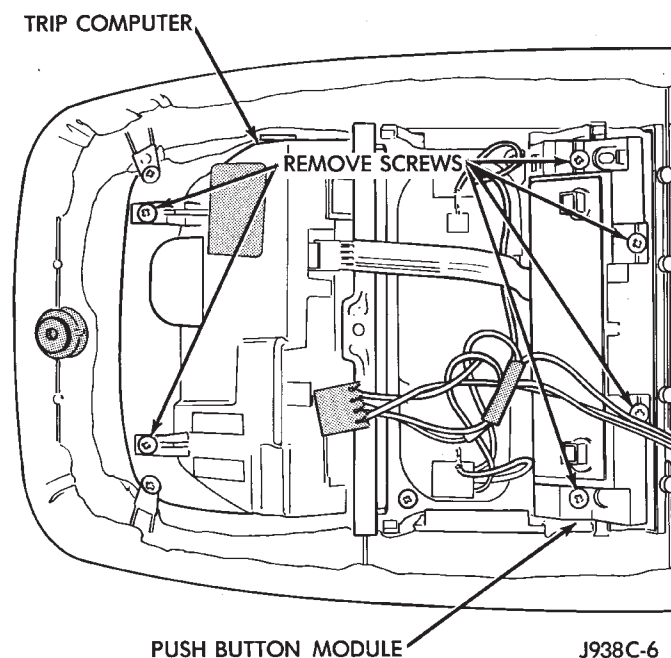

Fig. 5 Trip Computer Remove/Install - Typical
(1) Remove the overhead console as described in this group.
(2) Remove the screws securing the compass/thermometer/display module to the overhead console housing (Fig. 5).